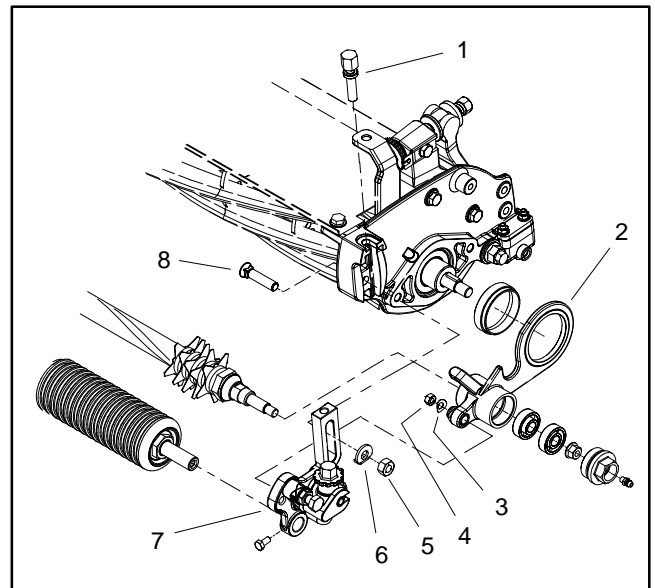

Figure 18
1. Remove groomer arm from cutting unit (Fig. 18):
2. Install groomer arm onto cutting unit (Fig. 18):